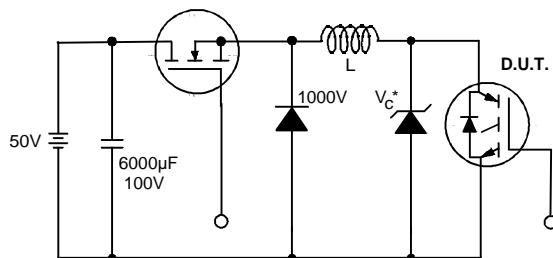

Figure 19. Clamped Inductive Load Test Circuit
- ②  $V_{CC}=80\%(V_{CES})$ ,  $V_{GE}=20V$ ,  $L=10\mu H$ ,  $R_G = 100W$  (figure 19)
- ③ Pulse width  $\leq 80\mu s$ ; duty factor  $\leq 0.1\%$ .
- ④ Pulse width  $5.0\mu s$ , single shot.
- ⑤ This only applies to TO-262 package.
- ⑥ This applies to D2Pak, when mounted on 1" square PCB ( FR-4 or G-10 Material ).